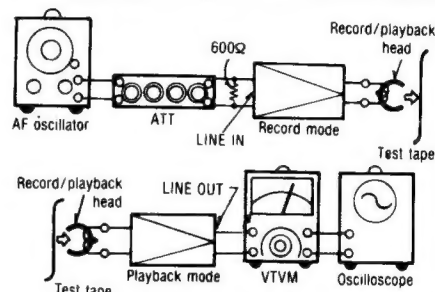

Fig. 15
1. Test equipment connection is shown in fig. 15.
8. Repeat from step (2).